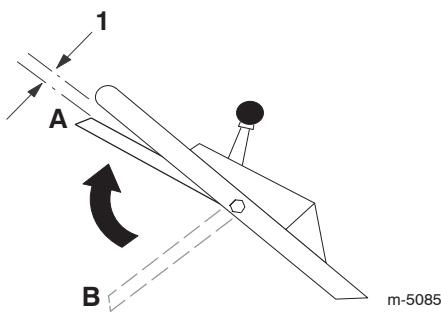

Figure 16
9. Lift the blade control bail up to about one inch (2.5 cm) below the handle; refer to position **A** in Figure 16.